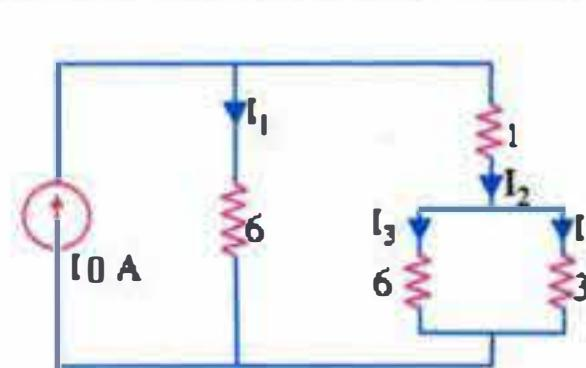

Fig. 2.42
8. Calculate the various branch currents of the circuit shown in Fig. 2.42. All resistance values are in ohms. [ $I_1 = 10/3\text{ A}$ ,  $I_2 = 20/3\text{ A}$ ;  $I_3 = 20/9\text{ A}$ ;  $I_4 = 40/9\text{ A}$ ]